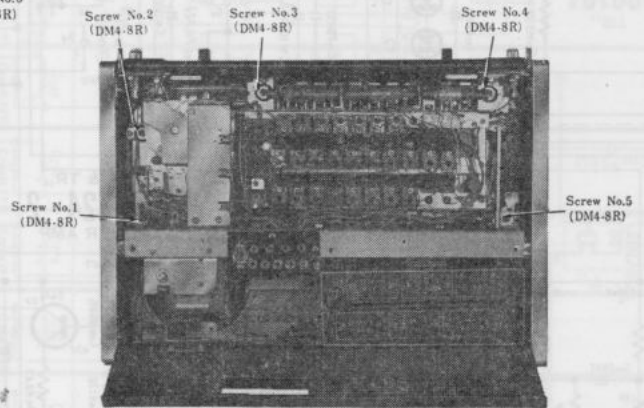

Fig. 2
10. Remove five (5) red chassis mounting screws (Nos. 1~5) as illustrated in Fig. 2.